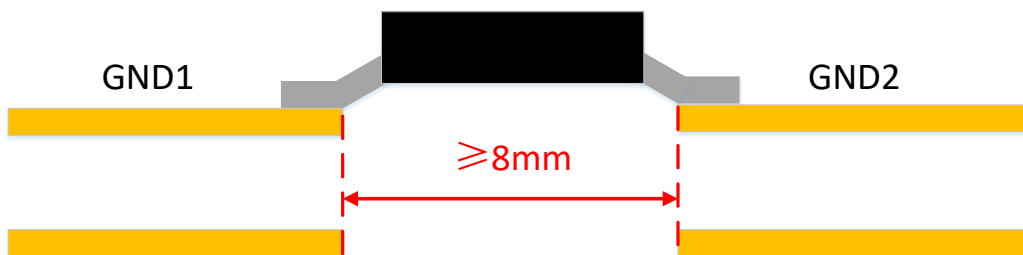

Fig. 19 Keep Sufficient Distance Between the Two Isolation Layers to Prevent Creepage
6. Keep more than 8mm distance between the top and bottom layers of PCB on both sides to prevent high voltage creepage, as shown in Fig. 19.
- Keep more than 8mm distance between the top and bottom layers of PCB on both sides to prevent high voltage creepage, as shown in Fig. 19.